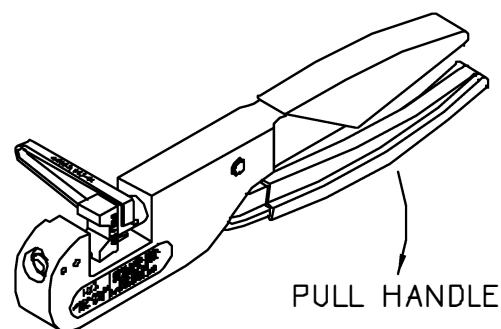

FIG. 3
2. Close the crimp tool handle and slide the die removal tool between the die and tool body (See Figure 3). Pull handle open with a snap action. The die will be released and can then be removed by hand.